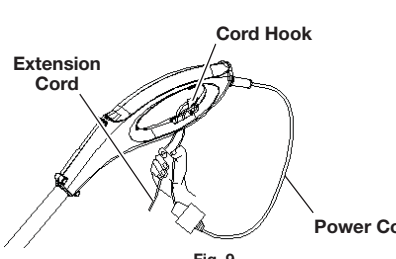

Fig. 9
1. Connect the power cord plug to the extension cord (Fig. 9).
2. Make a narrow loop with the extension cord and push the loop through the opening for the cord hook (Fig. 9).
3. Disconnect the power cord plug from the extension cord (Fig. 9).